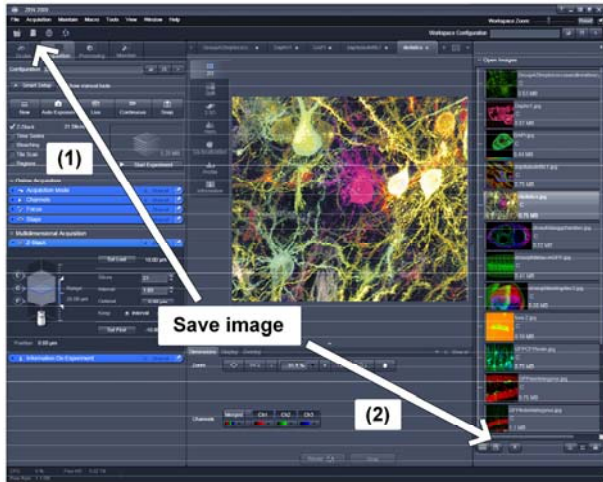

Fig. 27 Save Image buttons in ZEN
- To save your acquired or processed images, click on the **Save** or **Save As** button in **File Menu**, or click the  button in the **Main Toolbar** (Fig. 27/1), or click on the  button at the bottom of the **File Handling Area** (Fig. 27/2).